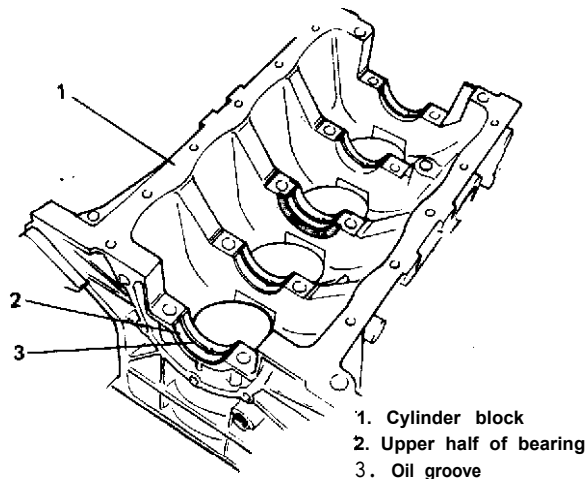

Fig. 3-5-42 Upper half of bearing installation
- The upper half of bearing has oil groove as indicated in Fig. 3-5-42. Install this half with oil groove to cylinder block.